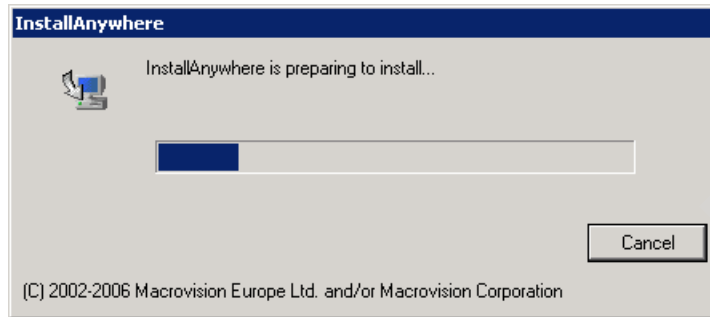

Figure 6-1 Preparation
1. Run the installer file; our version is SMIA-WS32-03.35.35.11.exe. The files unpack, as shown in Figure 6-1 on page 83.